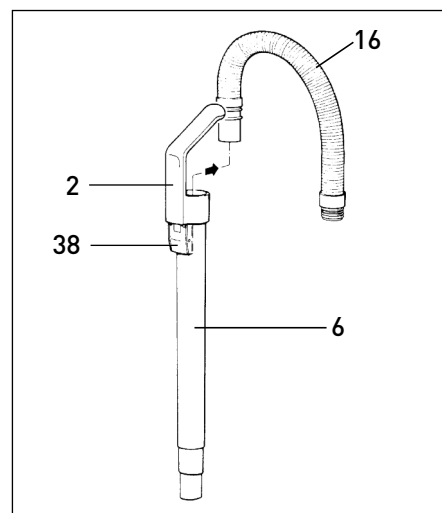

Figure 26
Clogs in the Cleaning Wand - Figure 26
Remove the attachment hose (16) from vacuum cleaner (see figure 26) and remove the bag housing cover (24). Clean out the connecting tube and/or entrance to bag (55).